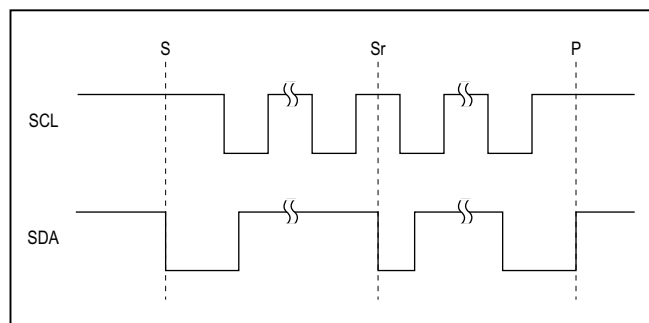

Figure 4. I²C START, STOP, and REPEATED START Conditions
When writing to the MAX14720/MAX14750 using I²C, the master sends a START condition (S) followed by the MAX14720/MAX14750 I²C address. After the address, the master sends the register address of the register that is to be programmed. The master then ends communication by issuing a STOP condition (P) to relinquish control of the bus, or a REPEATED START condition (Sr) to communicate to another I²C slave. See Figure 4.